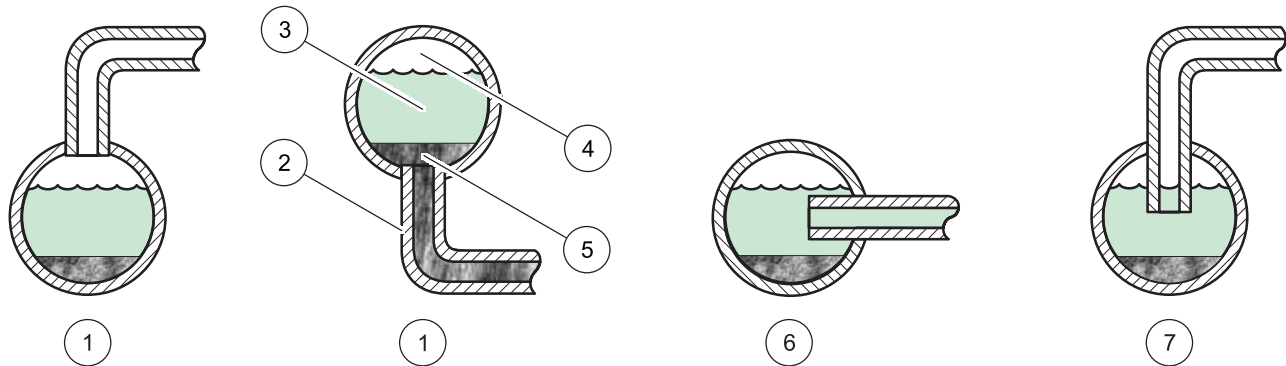

Figure 10 Sampling techniques
- Install sample line taps into larger process pipes to minimize the chances of ingesting sediment from the pipe-line bottom or air bubbles from the top. A tap projecting into the center of the pipe is ideal. Figure 10 shows both good and poor methods of installing a sample tap.